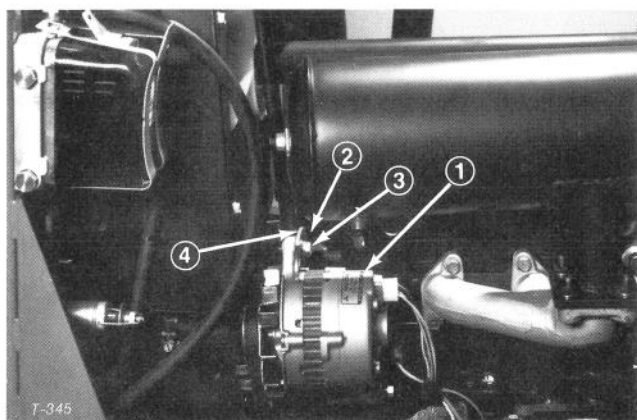

Figure 50
3. Loosen bolt securing brace to engine and bolt securing alternator to brace (Fig. 50).
4. Insert pry bar between alternator and engine and pry out on alternator (Fig. 50).